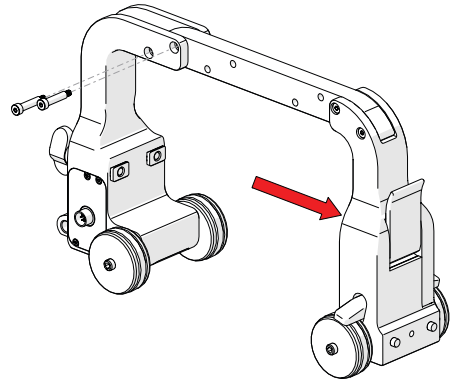

Fig. 11 - Align screw holes
2. With the 2 shoulder screws removed, position the two halves of the corrosion link further apart and align the screw holes and insert the shoulder screws (Fig. 11).